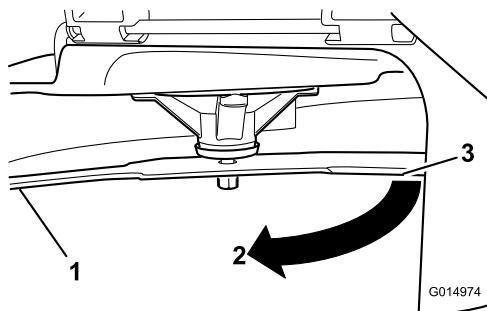

Figure 80
3. Measured distance between blade and the surface (A)
4. Rotate the same blade 180 degrees so that the opposing cutting edge is now in the same position (Figure 80).